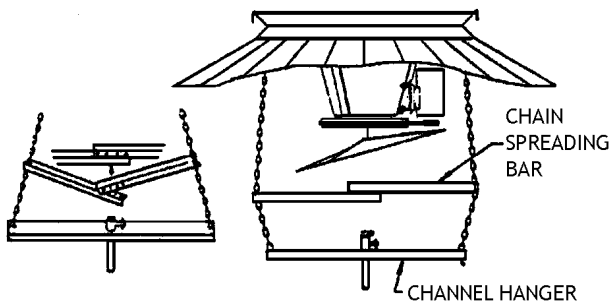

Figure 35 - Placement and Installation of Spreader Bar
- 91 Place slotted ends of spreading bar on chain as shown and force chains apart by pushing bar straight. **Figure 35.**